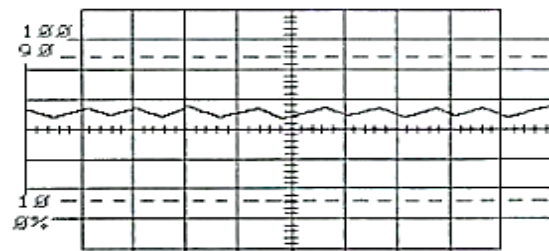

Figure 5-25.
21. To observe the USB frequency that is very weak, yet still present, set the oscilloscope sweep to 1 μ s/DIV and channel 2 to 50 mV/DIV. The signal should appear, as shown in the Figure 5-25. Does the slight waveform on channel 2 have a period of about 1.1 μ s, which corresponds to a frequency of 907 kHz?